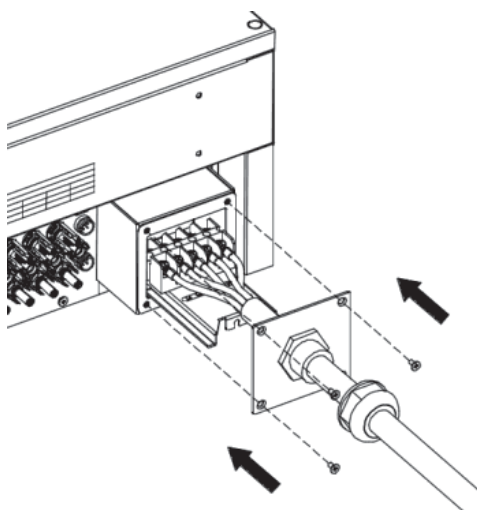

Figure 4.22 Fix the waterproof cover of junction box
(7) Push the AC terminal rail into the inside of the case and fix the rail with screws. Then lock the waterproof cover of the junction box with the fixing screws. The tightening torque is 1.5 N•m. Finally, tighten the waterproof connector to complete the waterproofing of the cable, as shown in Figure 4.22.